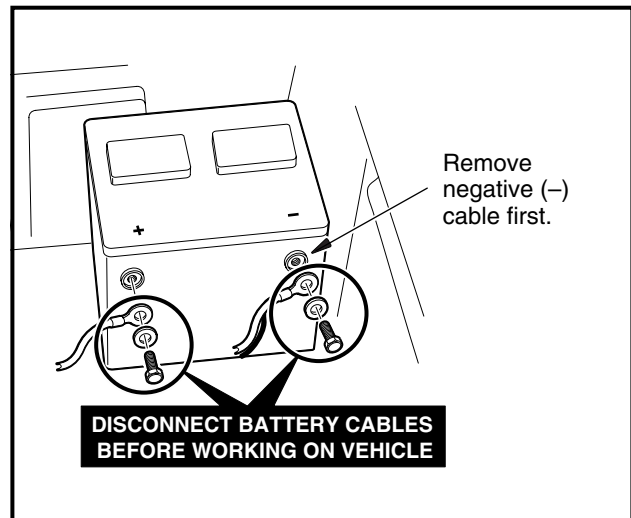

Figure 2 Battery Cable Removal – Gasoline
- Disconnect battery cables, negative (–) cable first (Figure 2).